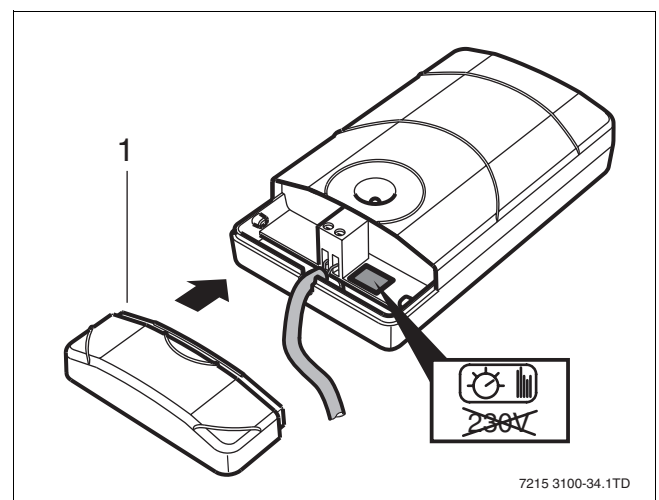

Fig. 34 Connect cable
- Connect the grey 2 core cable (supplied with ModuLink 250 RF thermostat) to the receiver (→ fig. 34). The wires are not polarity sensitive.
- To refit the cover, slide back on and click into place (→ fig. 34, item 1).